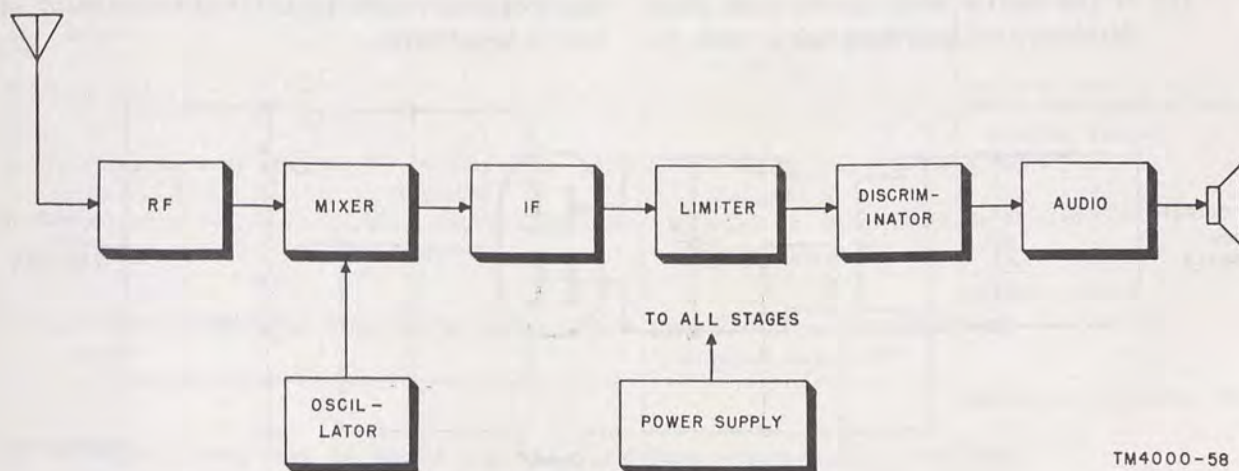

Figure 69. Fm receiver, block diagram.
b. The fm receiver has two stages not found in the am receiver: the limiter and discriminator stages (fig. 69). Troubles and troubleshooting procedures peculiar to these stages are covered in this section.